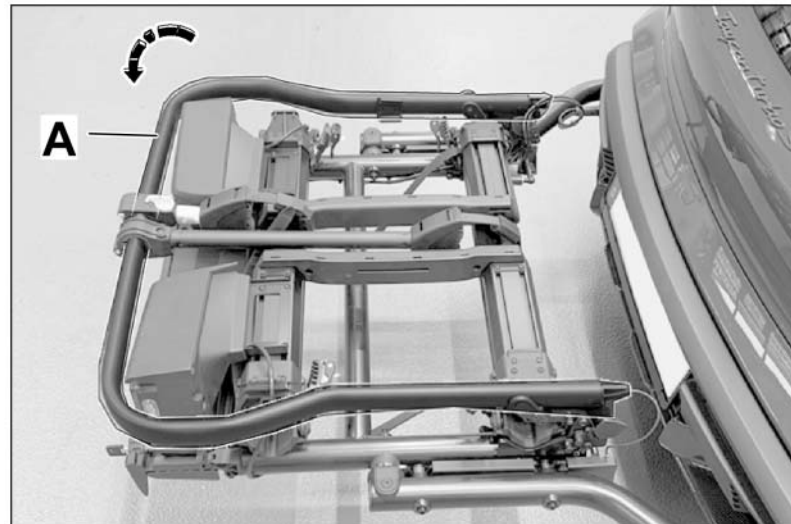

Figure 28
28. – Fold down the support bar ⇒ *Figure 28-LHD vehicle* -. Once the flaps have been folded in, the support bar can be folded downwards.